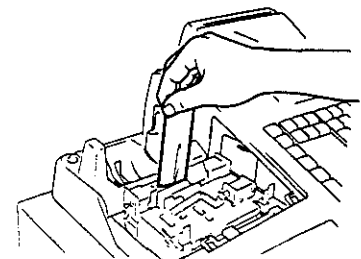

Fig. 6
7. When the paper end portion comes out enough, tear off the unnecessary part with attached cutter. (Fig. 6)